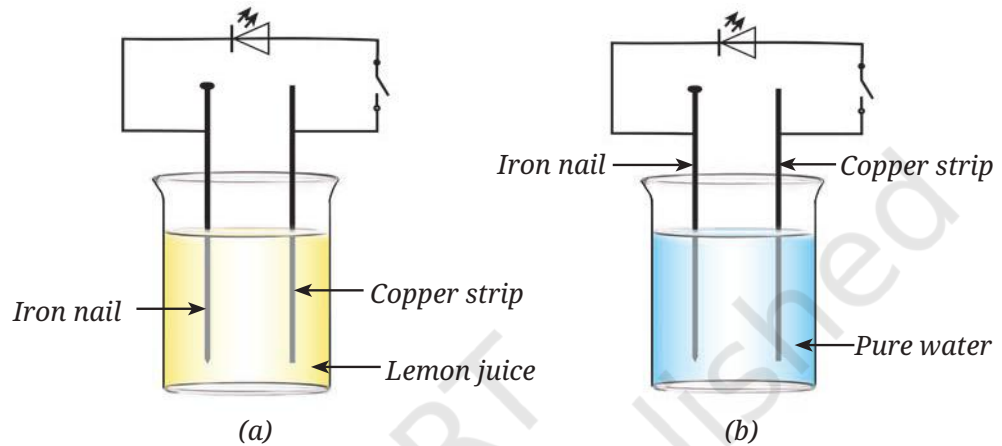

Fig. 4.11
9. In Fig. 4.11, in which case the LED will glow when the switch is closed?